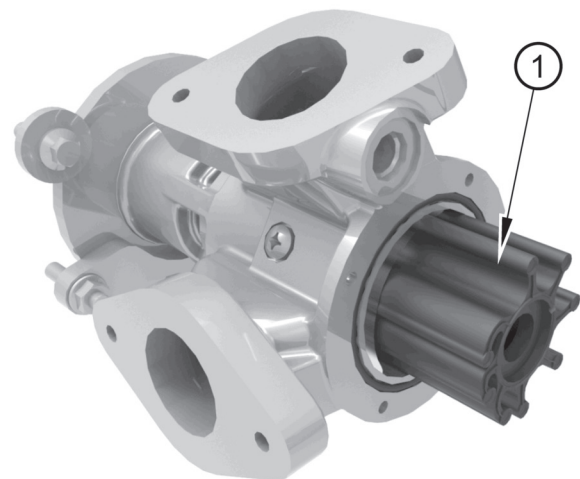

Figure 13
4. Remove the rubber end cap (item 2) and then pull the impeller from the shaft (figure 13 item 1).